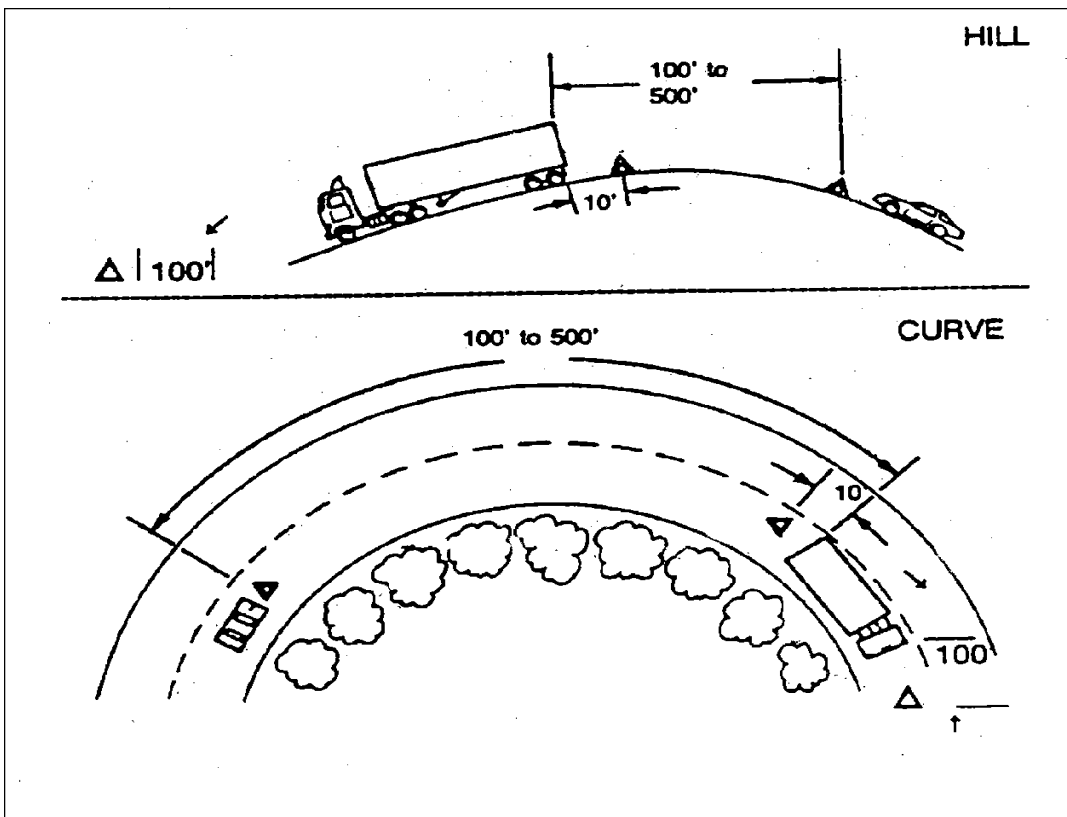

Figure 2-9
- Back beyond any hill, curve, or other obstructions that prevents other drivers from seeing the vehicle within 500 feet. (See Figure 2-9.)